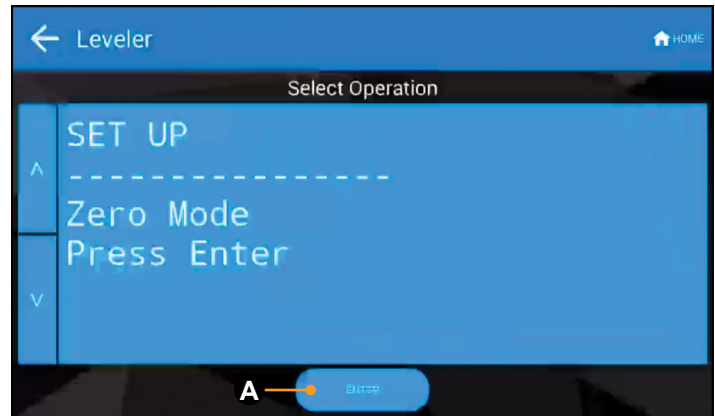

Fig.51
6. The screen will show “SET UP: Zero Mode Press Enter” (Fig.51).